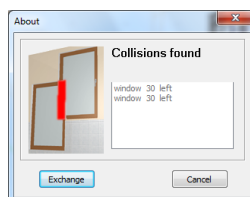

Fig. 89 – information about a collision of two windows
- if the parameters are specified incorrectly resulting in inserting an element in the location of an element previously inserted, a collision message display (Fig. 89).